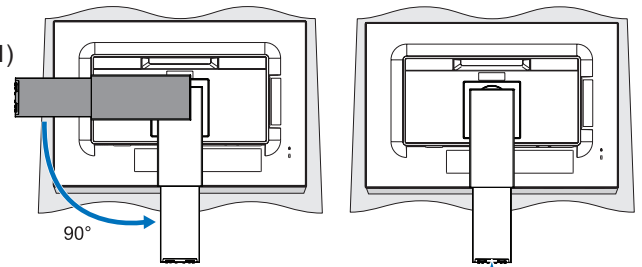

Figure 1
1. Place the monitor face down on a non-abrasive surface (**Figure 1**)
2. Please rotate the stand 90 degrees as shown in **Figure 1**.